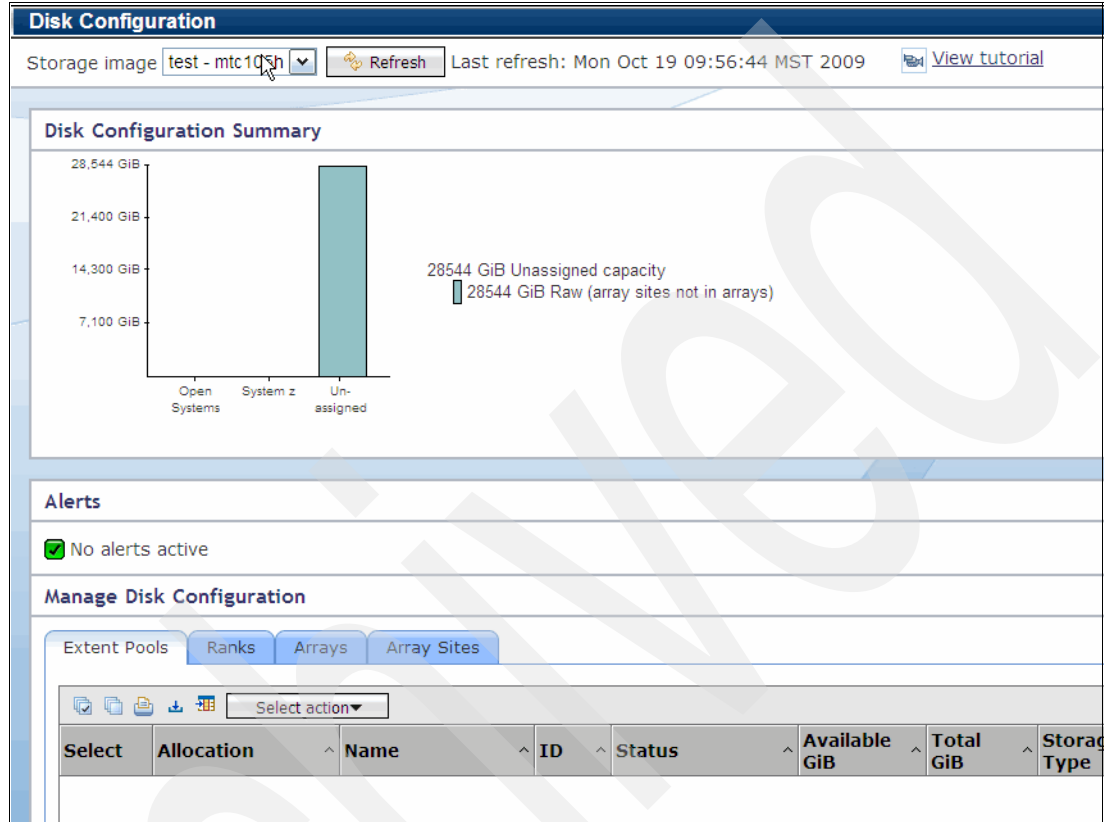

Figure 13-19 Disk Configuration window
1. In the DS GUI welcome window, from the My Work section, expand **Configure Storage** and click **Disk Configuration**. This brings up the Disk Configuration window (Figure 13-19).